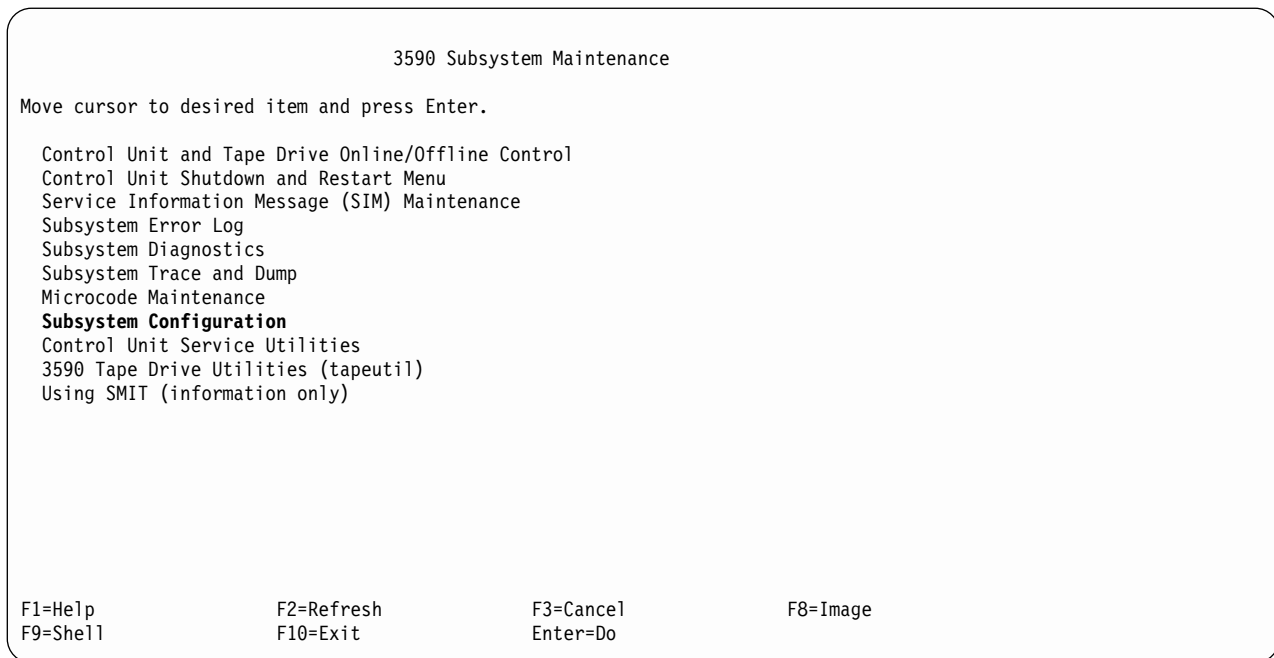
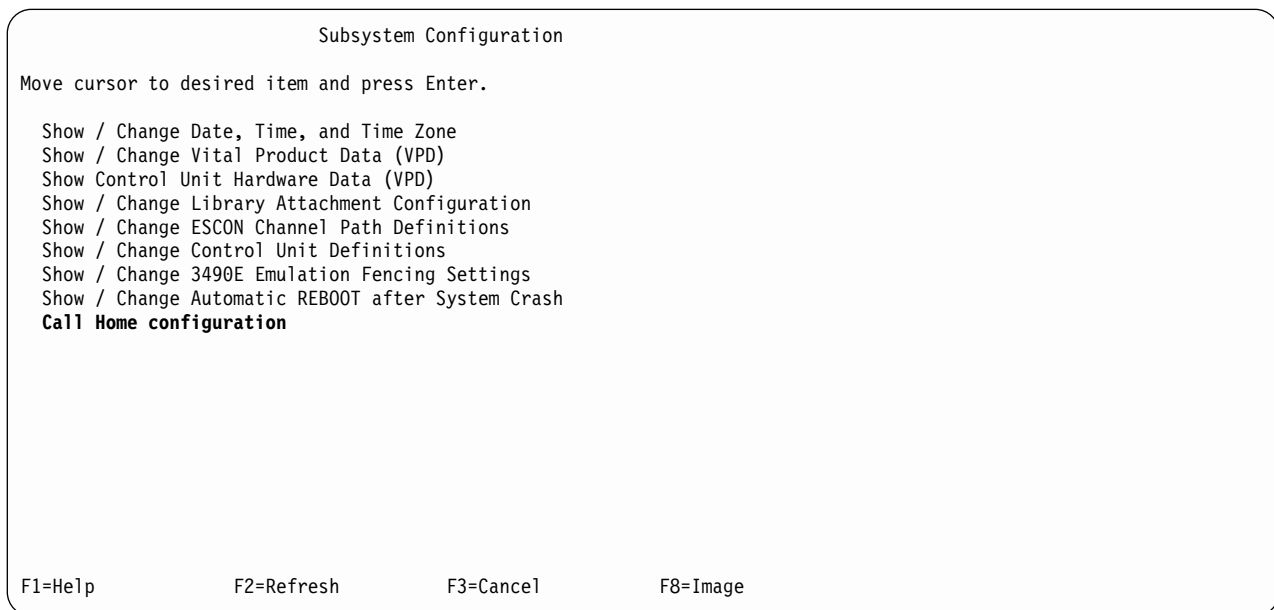
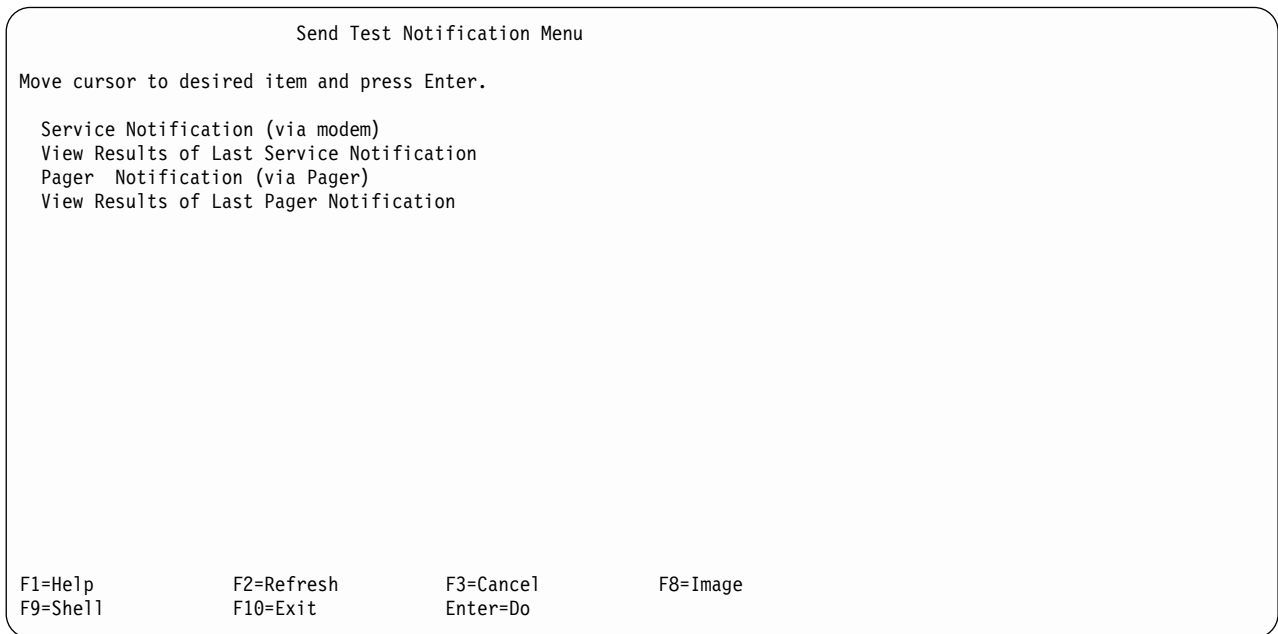

Figure 11-35. Main VTS Maintenance Screen
Figure 11-36. System Configuration Screen
Figure 11-42. Send Test Notification Menu
1. For **Call Home** Figure 11-35 on page 11-64, Figure 11-36 on page 11-64, Figure 11-37 on page 11-65 thru Figure 11-42 on page 11-69 are to be used for reference. At Figure 11-35 on page 11-64 select **Subsystem Configuration**. Press **ENTER**
2. At Figure 11-36 select **Call Home configuration**. Press **ENTER**